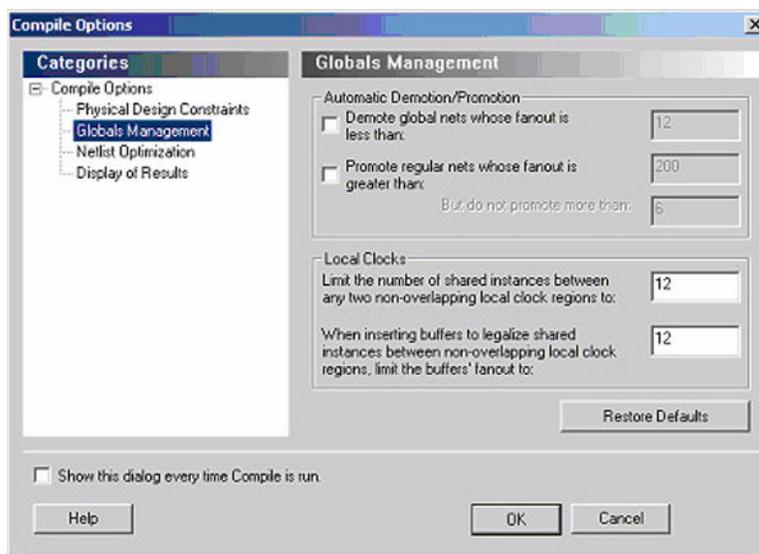

Figure 9 • Global Management GUI in Designer
2. If some signals have a very high fanout and are candidates for global promotion, then promote those signals to global using the Compile Options or PDC commands. Figure 9 shows the Globals Management section of the Compile Options. Select **Promote regular nets whose fanout is greater than** and input a reasonable value for fanouts.